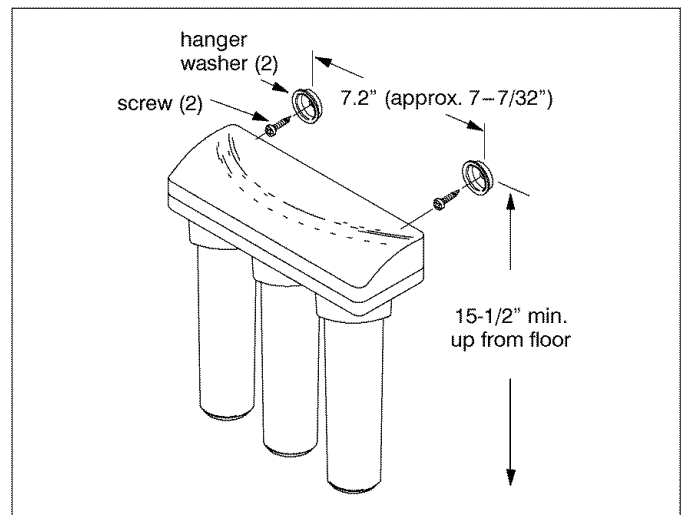

Figure 7
1. Refer to Figure 7 for wall mounting. Hold the assembly up to the wall surface and mark locations for the hanger washers. Distance needed is 7.2" (approx. 7-7/32") apart.